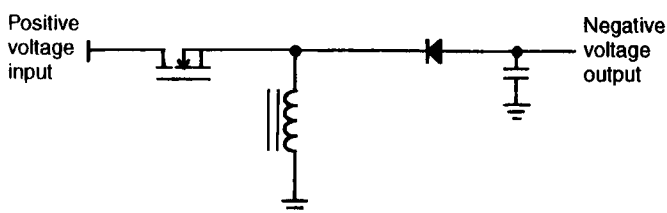

Figure 2.2 Using a buck to convert a positive input voltage to a negative output voltage.
2. The buck can only step down the input voltage: if the input is ever less than the desired output, the converter won't work. (However, see the section below on the buck-boost.) You can use a buck to generate a negative voltage. Figure 2.2 shows such a configuration. When the transistor turns on, current in the inductor ramps up. When the transistor turns off, the inductor current is pulled from the output capacitor, pulling it negative.